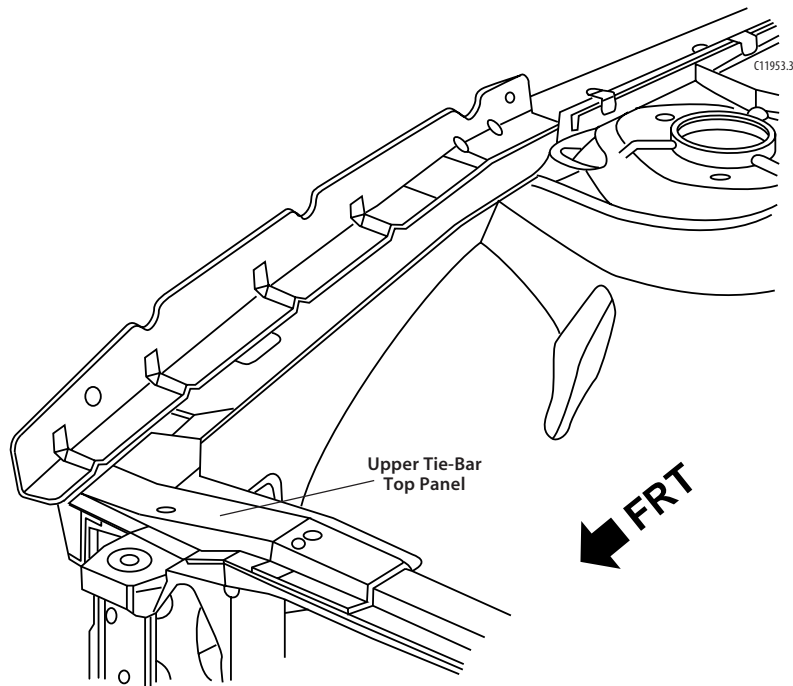

Figure 3-3:
4. Install the upper tie-bar top panels to the upper rail assembly and the radiator support assembly, then plug weld accordingly (figure 3-3).